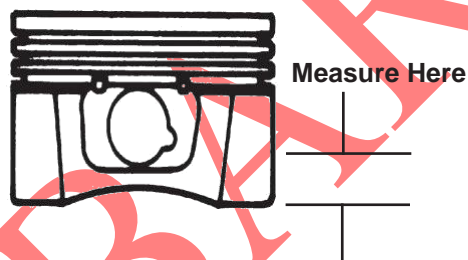
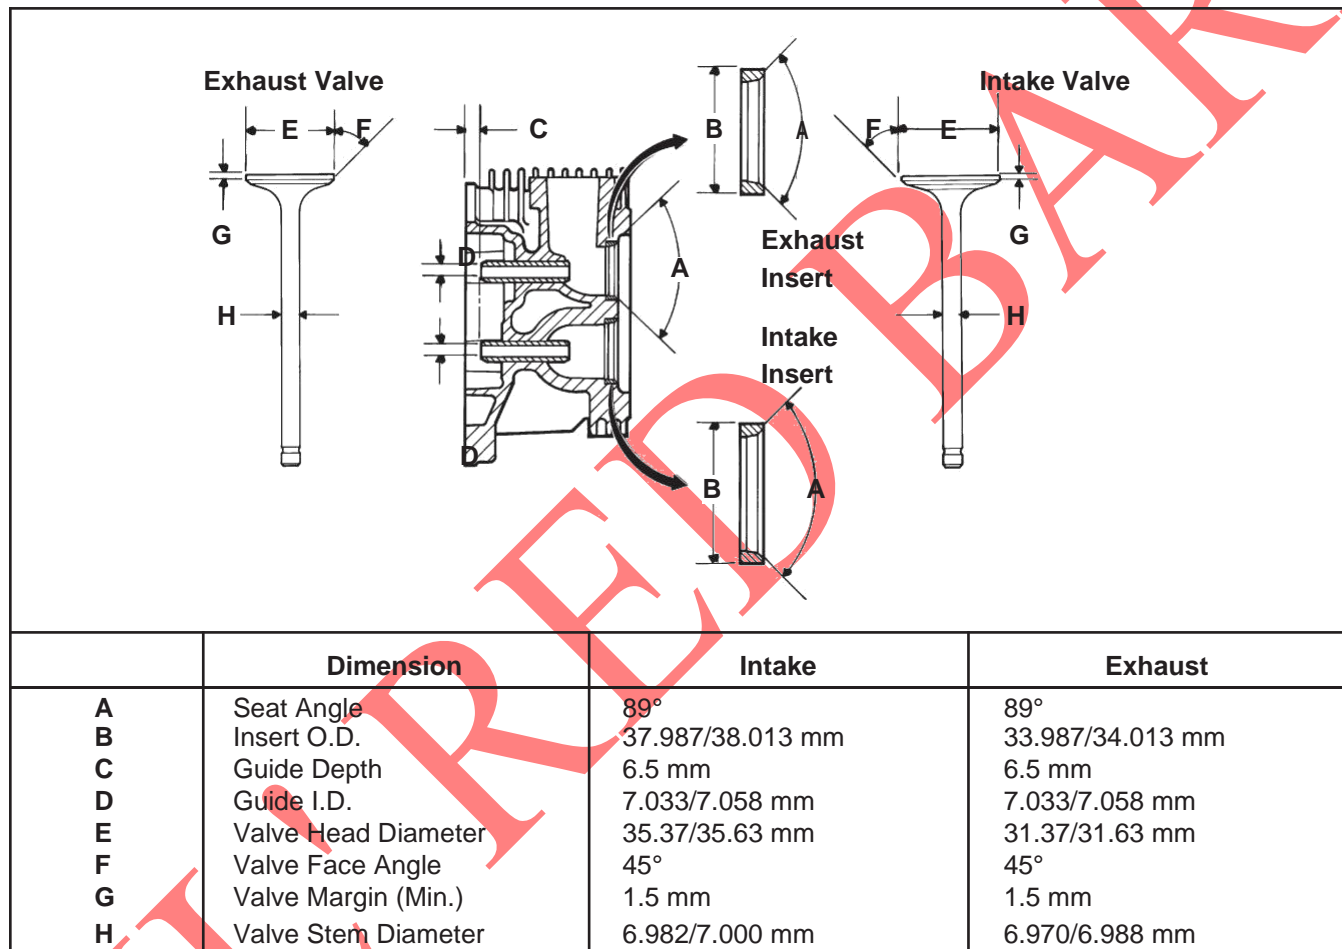
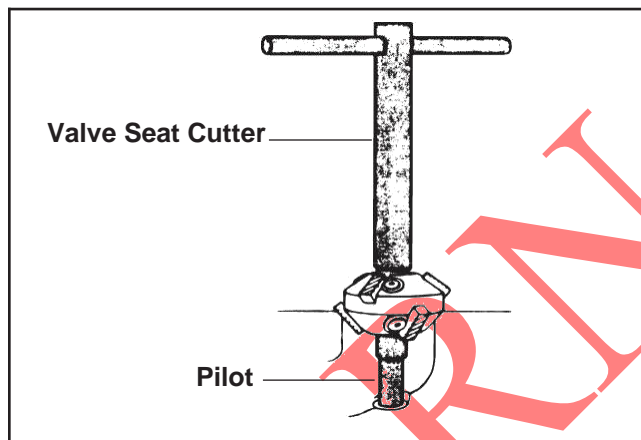

Figure 10-4. Measuring Piston Diameter.
Figure 10-5. Valve Details.
Figure 10-6. Typical Valve Seat Cutter.
1. Use a micrometer and measure the diameter of the piston perpendicular to the piston pin, and up from the bottom of the piston skirt as indicated in Figure 10-4, based on the model involved.
Carefully inspect the valve mechanism parts. Inspect the valve springs and related hardware for excessive wear or distortion. Check the valves and valve seat area or inserts for evidence of deep pitting, cracks, or distortion. Check clearance of the valve stems in guides. See Figure 10-5 for valve details and specifications.
Recondition the valve seat inserts following the instructions provided with the valve seat cutter being used. A typical cutter is shown in Figure 10-6. The final cut should be made with an 89° cutter as specified for the valve seat angle in Figure 10-5. With the proper 45° valve face angle as specified in Figure 10-4 and the valve seat cut properly (44.5° as measured from centerline when cut 89°) this would result in the desired 0.5° (1.0° full cut) interference angle where the maximum pressure occurs on the outside diameters of valve face and seat.